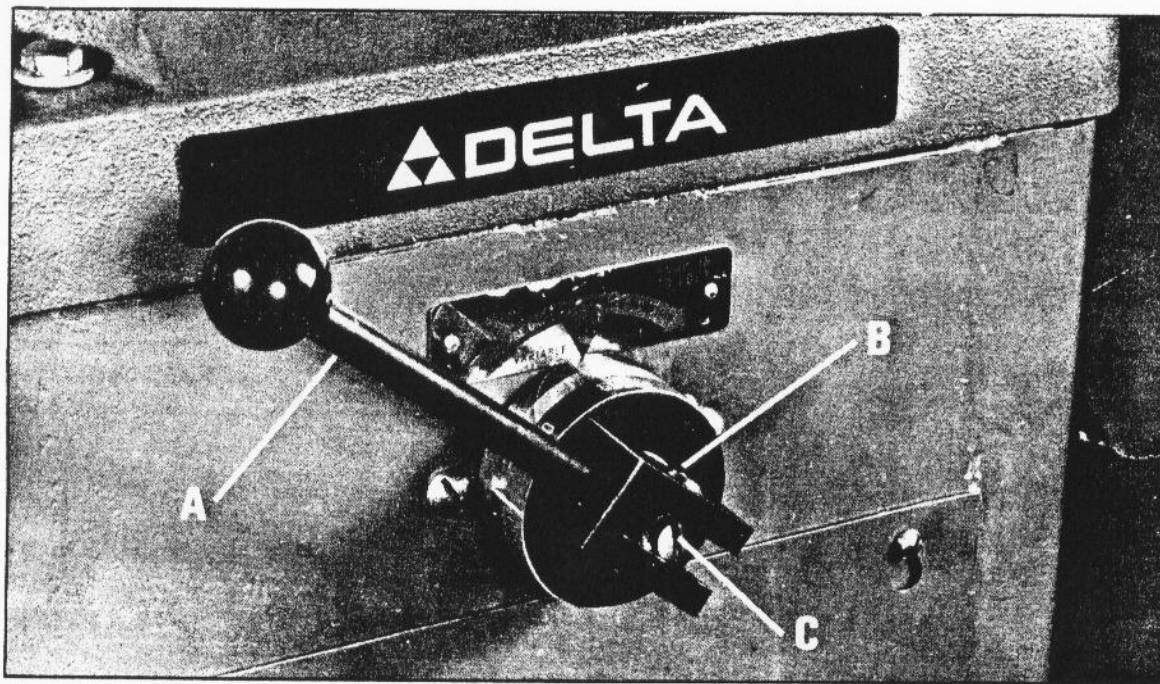

Fig. 3.
The variable speed control lever (A) Fig. 3, pivots and must be pulled out when changing speeds. When the desired speed is obtained, the lever is pushed in and automatically locks in position.
2. Loosen set screw (B), Fig. 3, using an allen wrench.
3. Turn the slotted screw (C) Fig. 3, slightly to the right.
5. If further adjustment is necessary, adjust the slotted screw (C) Fig. 3.